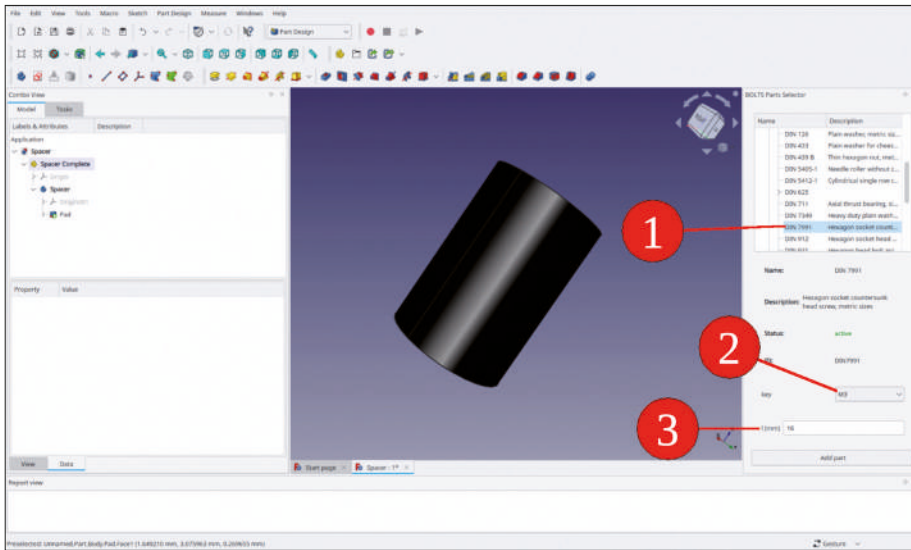

Figure 4-10
3. From the list, select 'Standard | DIN | DIN 7991Hexagon socket countersunk head', leave the key at the default 'M3' and set the length *l* to 16 mm (Figure 4-10). Then click the 'Add Part' button at the bottom of 'BOLTS Parts selector'.